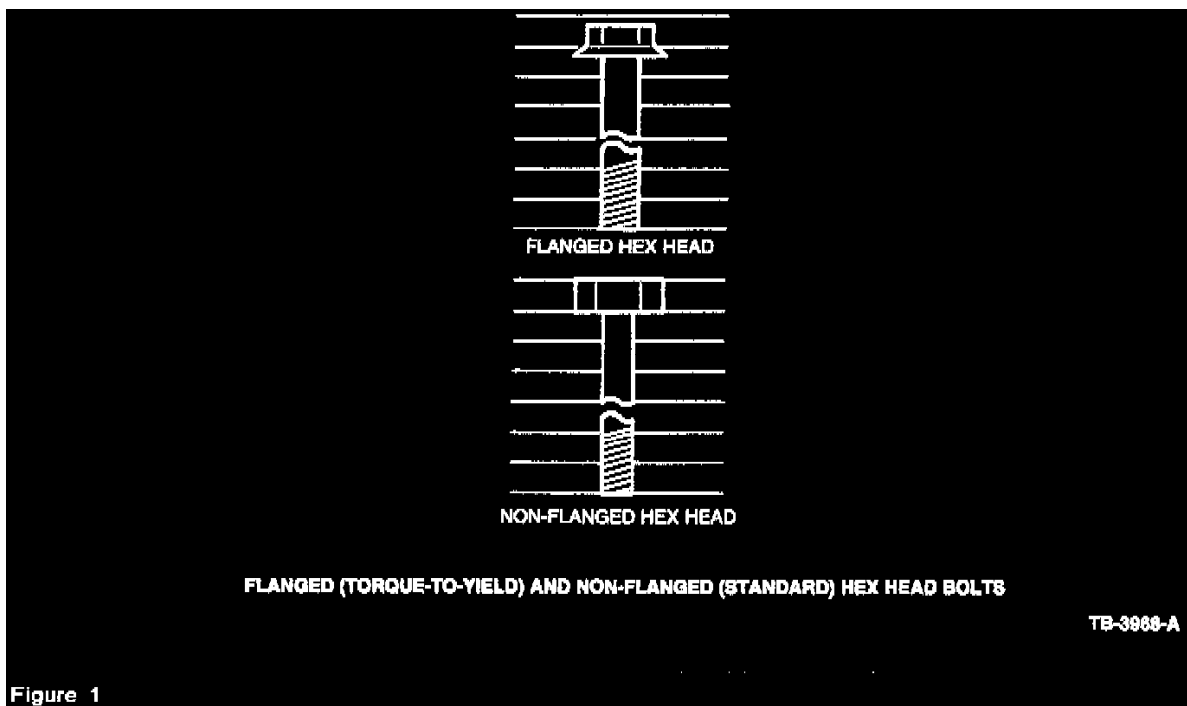

Figure 1
^ The two (2) types of bolts being used are physically different. Refer to Figure 1.